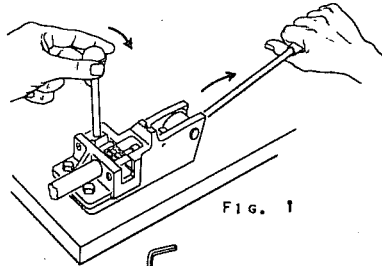

FIG. 1
1. Swing flaring handle (A) into vertical position and release die holder cam lever (B). Swing out die holder assembly and remove die pressure plate (C). Insert set of dies (D) corresponding to tubing size to be flared with marking facing cone (Fig. 1). Replace die pressure plate and return die holder to flaring position.